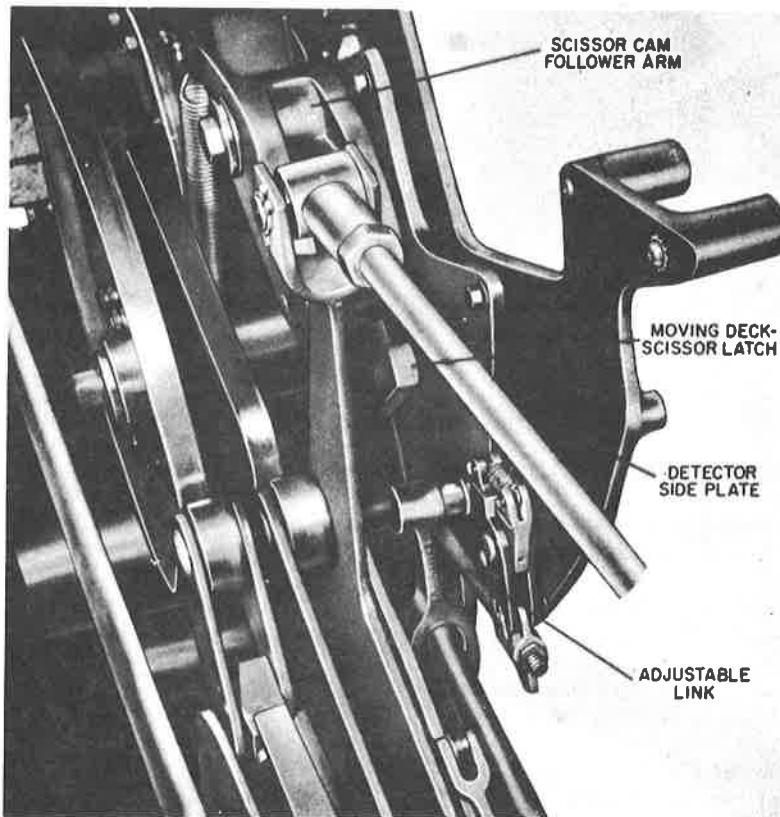

Figure 66. Moving Deck-Scissor Latch Adjustment
8. MOVING DECK-SCISSOR LATCH ADJUSTMENT. (FIGURE 66)